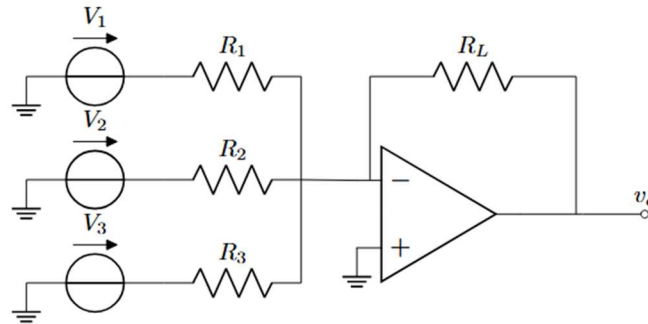

Figure 2 - Summing Amplifier
- I. Solve the following circuit for V_{out} by hand with respect to the variables in figure 2. **(2.5 Points)**